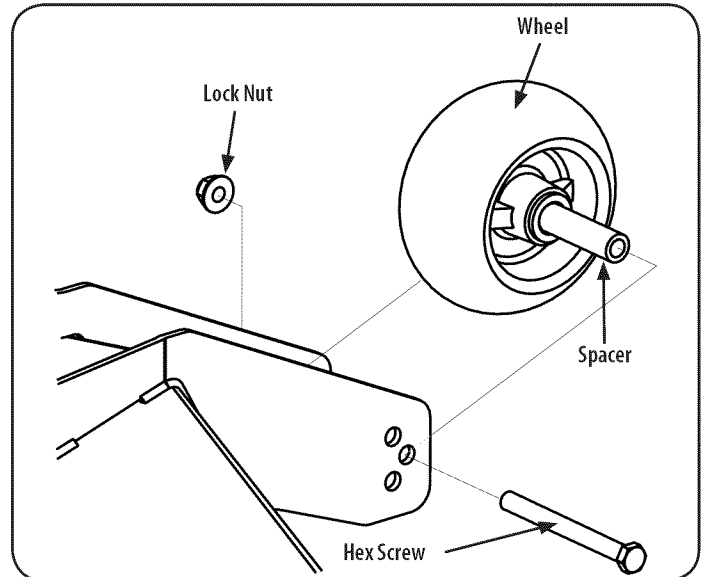

Figure 31
2. Remove the lock nut securing one of the front gauge wheel hex screws to the deck. Remove the gauge wheel, hex screw and spacer. See Figure 31.